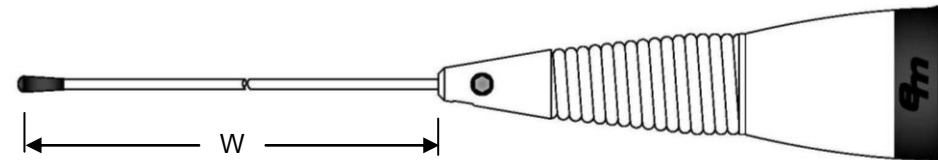

Fig. 4
TUNED LENGTH “W” is determined by measuring the distance between the top of the whip adapter and the top of the whip. **See Figure 4. NOTE: The actual cut length will be approximately 1” (25mm) longer than TUNED WHIP LENGTH “W”.**
- 4. Imperial and Metric units are given for convenience. Cut the whip as required to establish the specified **TUNED WHIP LENGTH “W”** as shown in Figure 4.